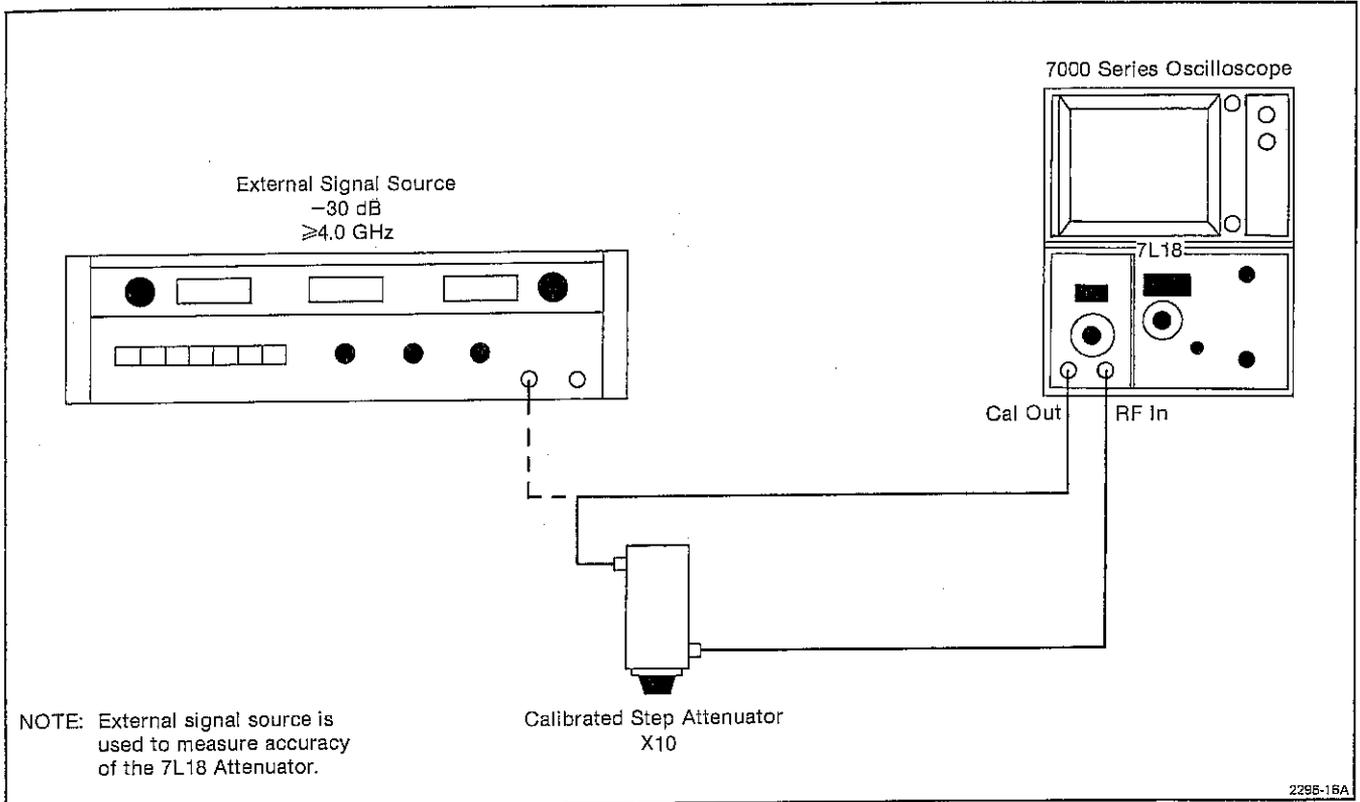

Fig. 4-2. RF Attenuator Test Setup.
a. Connect the test setup as shown in Fig. 4-2. Set the front panel controls as follows: